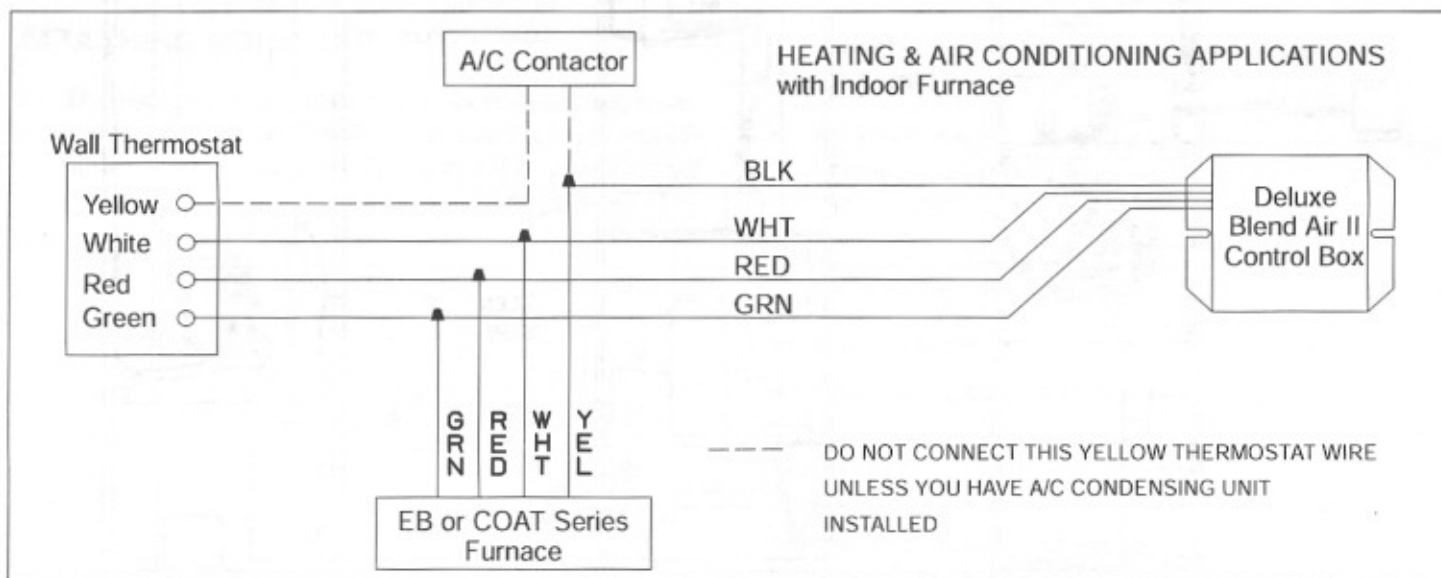

Figure 12 — Low Voltage Wiring — Air Conditioning Applications
3. The Deluxe Blend Air II wires (red, white, green and black) connect with the furnace thermostat wires. See Figures 12, 14, and 17.